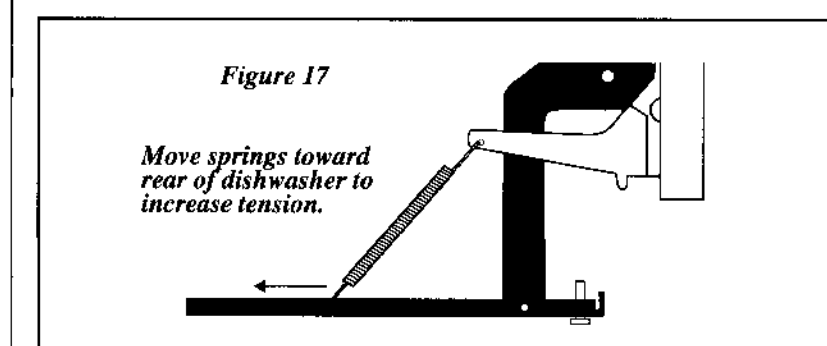

Figure 17
3. If necessary, increase tension by moving springs to a hole toward rear of unit or decrease by moving them toward front. See Figure 17.